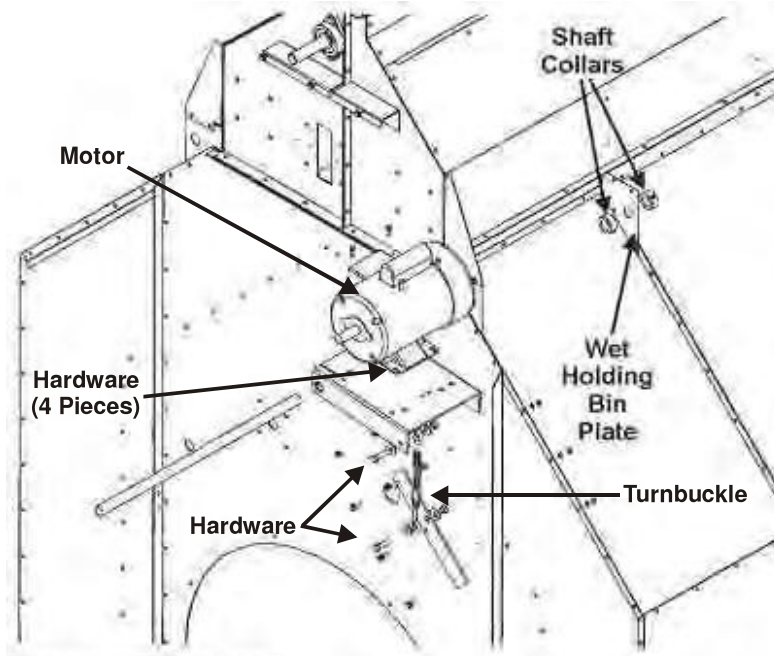

Fig. 2-16 - Motor mount components
3. Slide shaft collars on each side of wet holding bin plate. See Fig. 2-16.
5. Bolt turnbuckle plate to side of dryer. See Fig. 2-16.
6. Bolt turnbuckle between motor mount and turnbuckle plate using 1/2 x 1-3/4" bolts, 1/2" flat washers and 1/2" lock nuts. See Fig. 2-16.
7. Bolt motor to motor mount using 5/16 x 1" bolts and 5/16" nuts and washers. See Fig. 2-16.